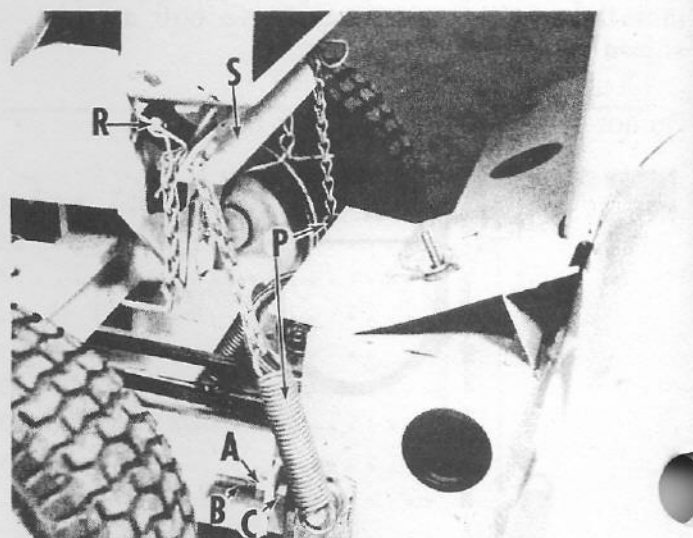

Fig. 20
INSTALLATION OF LIFT ASSIST SPRINGS Fig. 20
bracket (S) under hood threading rod through bracket and hood mounts securing with cotter pins on both sides. Thread toggle chain through angle bracket and attach it to lift spring (P) as shown in (Fig. 20). Repeat procedure for opposite side of tractor. Raise Snow Thrower with tractor lift lever to highest position. Then pull toggle chain through angle bracket exerting slight pressure on the lift spring and lock into position by inserting hair cotter pin in lift chain.
Adjustment procedure No. 1: (Fig. 20)